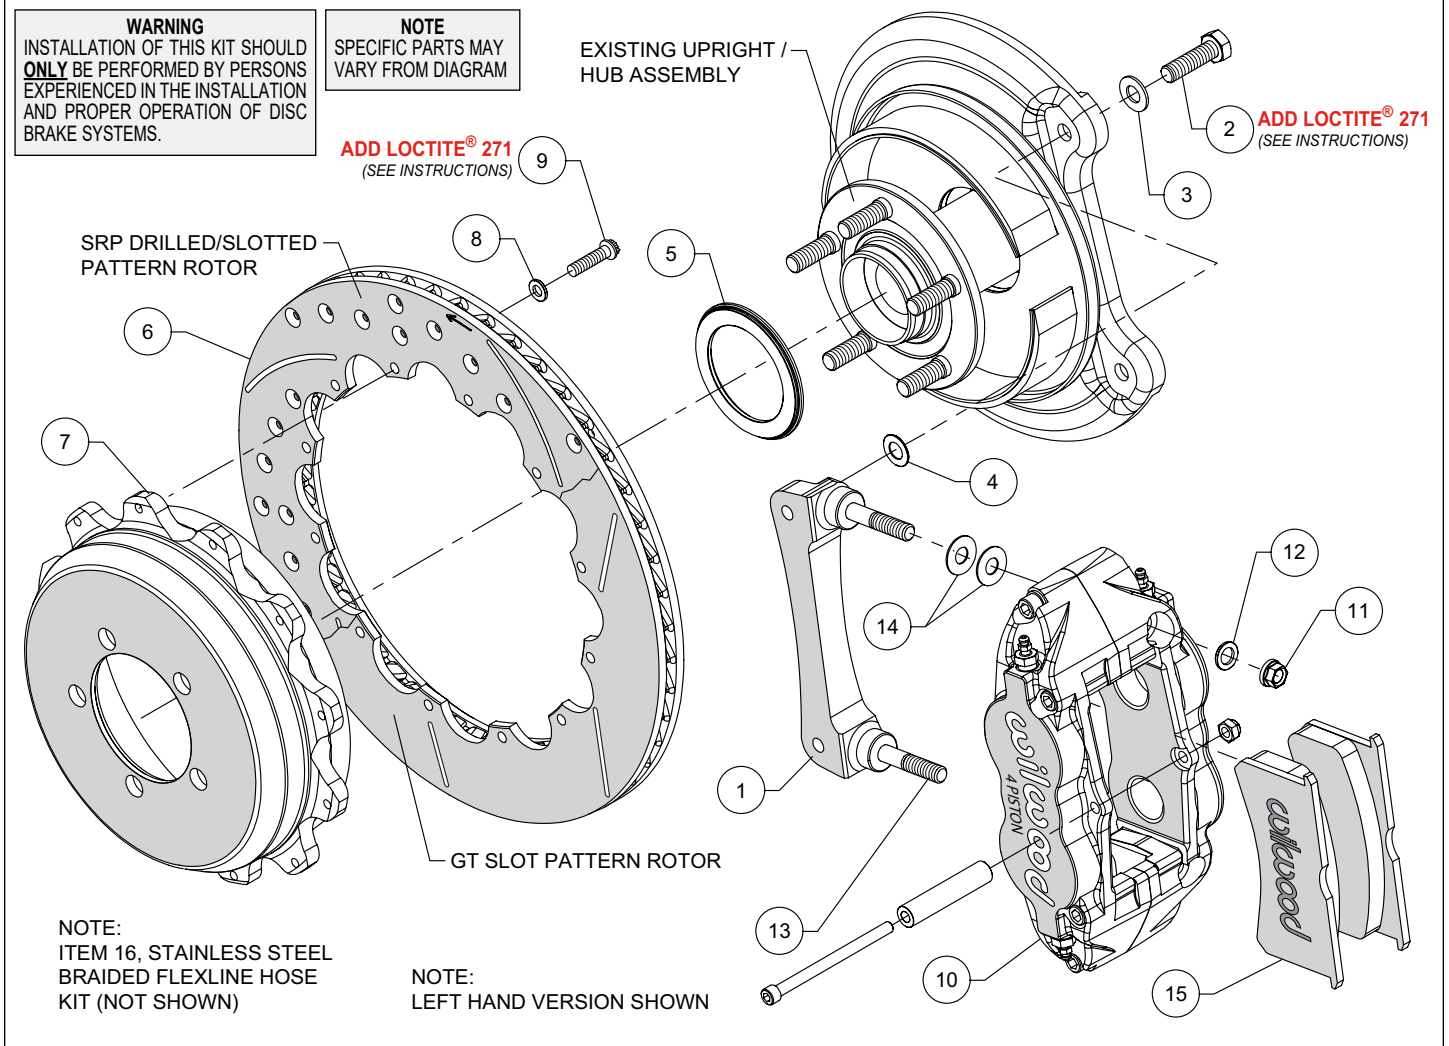
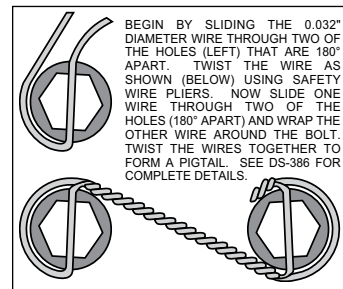

Figure 1. Typical Installation Configuration
Figure 3. Safety Wire Diagram
Assembly Instructions (numbers in parenthesis refer to the parts list and Figure 1 on the preceding pages):
- The caliper mount bracket (1) should initially be installed with clean, dry threads on the mounting bolts. Orient the bracket as shown in Figure 1 and Photo 2, and install using washers (3) and bolts (2). Initially place one shim (4) on each bolt between the bracket and upright, Figure 1. Temporarily tighten the mounting bolts. **NOTE: The bracket must fit squarely against the mount bosses on the upright.** Inspect for interference from casting irregularities, machining ridges, burrs, etc. Later, after the caliper alignment has been checked, the mount bolts will be secured using red *Loctite*® 271.
- Orient the rotor (6) and the hat (7) as shown in Figure 1 and Photo 3. Attach rotor to hat using bolts (9) and washers (8). Apply red *Loctite*® 271 to the bolt threads and torque to 140 **in-lb** using a criss-cross pattern. For an added measure of security, the bolts may be safety wired using standard 0.032 inch diameter stainless steel safety wire as shown in Figure 3. Please refer to Wilwood's data sheet DS-386 (available at www.wilwood.com/Pdf/DataSheets/ds386.pdf) for complete safety wire installation instructions.
- Initially place two .035" thick shims (14) on each stud (13) as shown in Figure 1 and Photo 5. Mount the caliper (10) onto the bracket (1) using lock nuts (11) and washers (12), Figure 1. Temporarily tighten the lock nuts and view the rotor through the top opening of the caliper. The rotor should be centered in the caliper, Photo 6. If not, adjust by adding or subtracting shims (4) between the bracket and the upright. Once the caliper alignment is correct, remove the bracket mounting bolts one at a time, apply red *Loctite*® 271 to the threads, and torque to 40 ft-lb.
- Remove the caliper center bridge pad retainer bolt, nut, and tube from the caliper. Insert the brake pads (15) into the caliper, with the friction material facing the rotor, as shown in Photo 7. Check that the top of the brake pad is flush with the outside diameter of the rotor, Photo 8. If not, adjust by adding or subtracting shims (14) between the caliper and the bracket. After the caliper pad height is set, reinstall the center bridge pad retainer tube, bolt, and lock nut. The lock nut should be snug without play in the bolt or tube. Be cautious not to over tighten. Torque the caliper lock nuts (11) to 30 ft-lb.